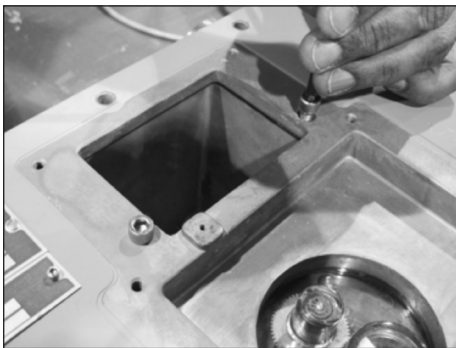

Figure 16.2 Example - Remove two (1/4"-20) screws
3. Use a 3/16 Allen wrench to remove the two remaining (1/4"-20) screws near the battery compartment as shown in Figure 16.2 Example.